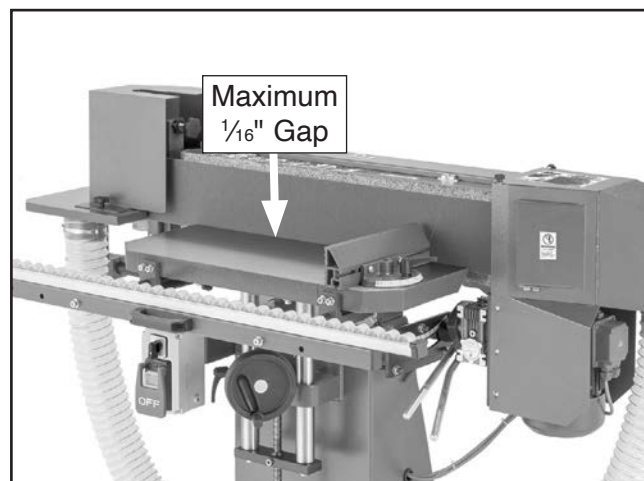
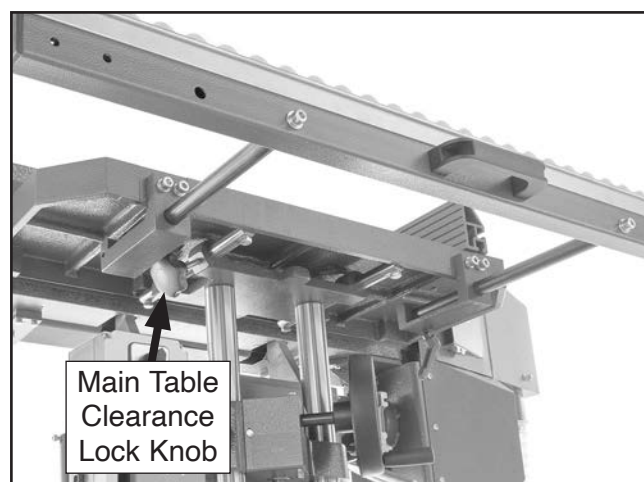

Figure 31. Main table adjusted to within $\frac{1}{16}$ " of sanding belt without touching.
Figure 32. Location of main table clearance lock knob.
17. Push main table closer to sanding belt until table is within $\frac{1}{16}$ " of sanding belt without touching (see **Figure 31**), then tighten main table clearance lock knob (see **Figure 32**).